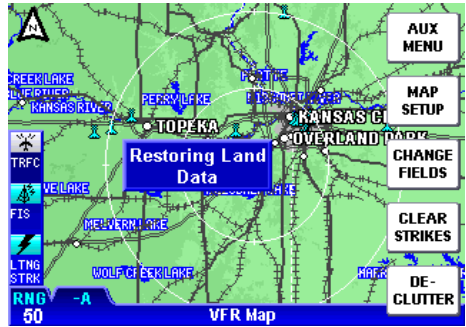

Figure 1-54
4. Press the **DECLUTTER** Softkey again. The third press will now restore the land data as seen in Figure 1-54. Note that the **-L** is no longer shown in the bottom left of the screen indicating land data is now being displayed.